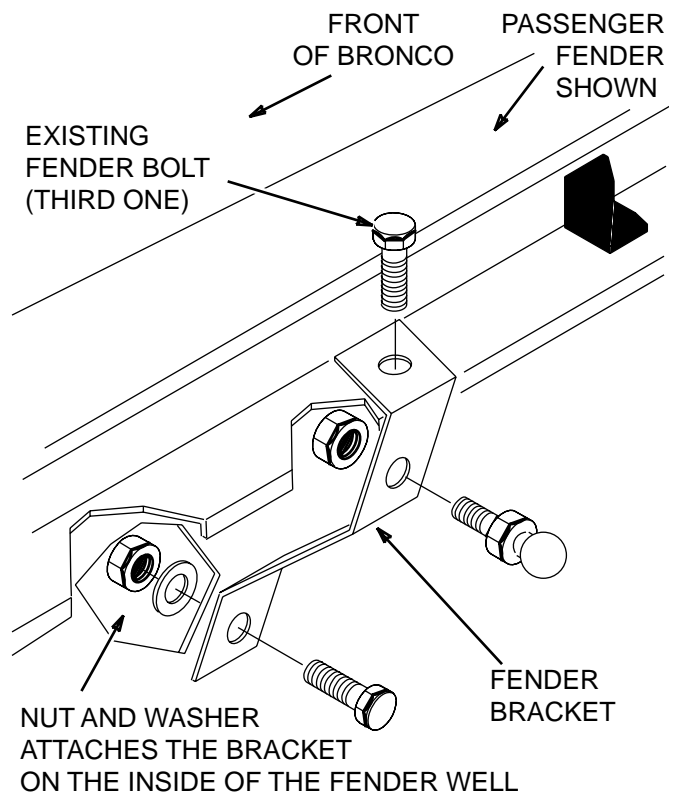

Figure 2
5. Install the 1/4"x20x3/4" bolt thru the bracket and secure it with the washer and nut from the inside (tire) of the fender well. Tighten fender bolt and bracket hardware. See Figure 2.